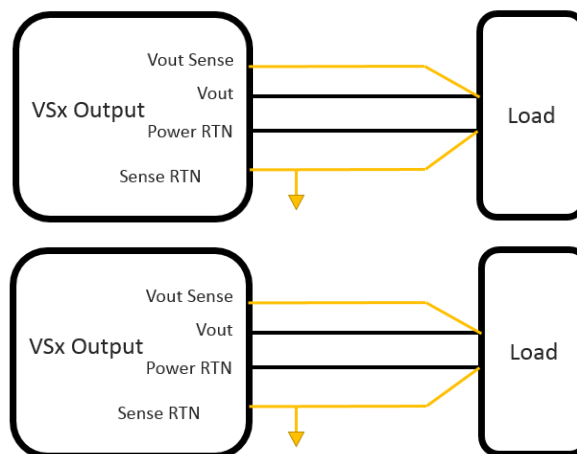

Figure 3: M4265 Sense line connection
*Sense Lines* proper connection is shown in Figure 3.